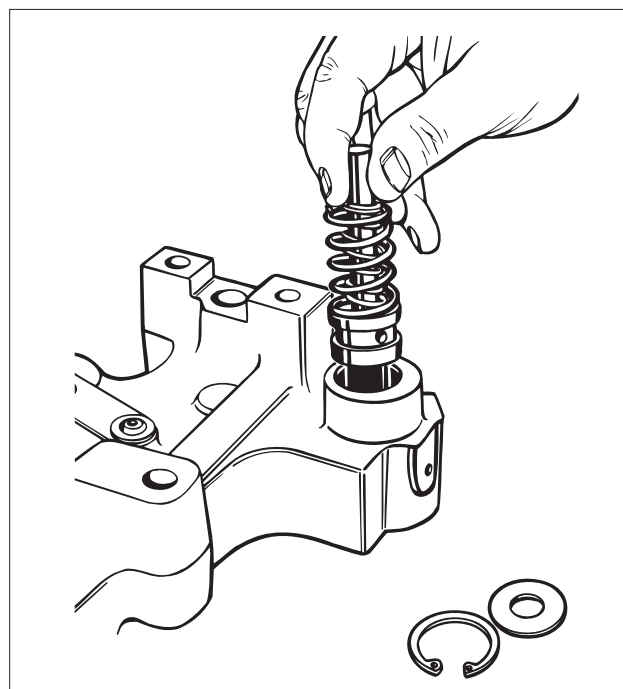

FIG. 26
5. Remove the retainer, spring and slave piston. Check for nicks or burrs that could cause binding. (see Fig. 26)